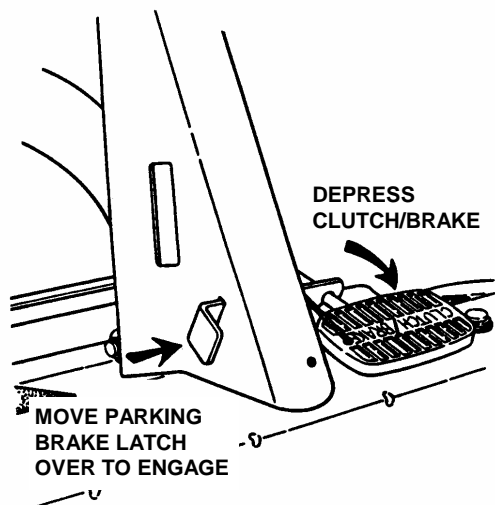

FIGURE 4.8
4. Depress clutch/brake pedal all the way down. Move and hold the park brake latch over in the "ENGAGED" position and release the clutch/brake pedal to set the park brake. See Figure 4.8.